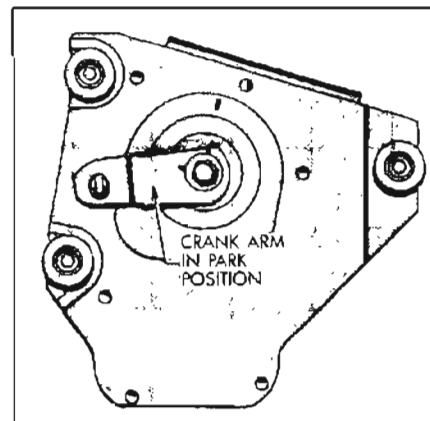
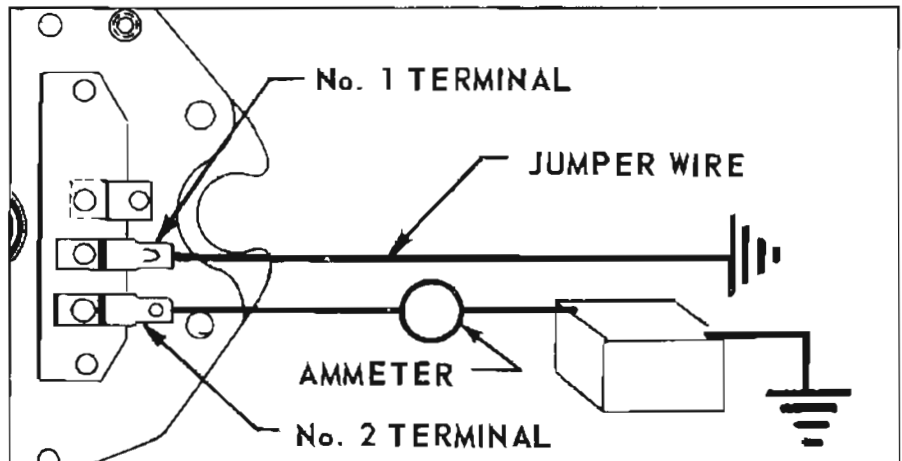

Figure 10-100—Park Position of Crank Arm
Figure 10-102—Connections to Operate Wiper Out of Car
When the car owner shuts the wiper "off" at the dash switch, the motor circuit to ground is opened at the dash. However, the parking switch contacts, which are normally closed, maintain the motor circuit to ground at the wiper. This allows the wiper to keep operating until the blades or wiper crank arm reach the park position (Blades approx. 2" above windshield molding). (Figure 10-100 shows the crank arm in park position.) At the same time the blades reach the park position, a cam on the output gear opens the park switch contacts. This opens the motor circuit to ground, stopping the motor. Thus, the park switch actually controls wiper operation only during that short period of time, after the owner turns the wiper "off" at the dash switch but before the wiper has completely stopped.
Figure 10-102 shows the proper method of connecting jumper leads to the wiper so that it can be operated independently of the dash switch or car wiring for test purposes. (NOTE: Specification table at end of this section lists current draw data.)
Step (a) but wiper still fails to operate, disconnect wiring harness from wiper and check for 12 volts at harness terminal that connects to wiper terminal No. 2, Figure 10-102. No voltage indicates defective car wiring. **CAUTION: DO NOT connect hot line to No. 1 terminal.**
(c) Connect 12 volt supply to No. 2 wiper terminal and connect a jumper wire from terminal No. 1 to ground (Figure 10-102). If wiper operates, the dash switch or wiring between dash switch and wiper is defective.
wiper terminal No. 2 (Figure 10-102). DO NOT connect any jumper wire to terminal No. 1.
Connect a 12 volt supply and an ammeter to wiper as shown in Figure 10-102 and observe current draw and wiper operation.
Wiper crank arm fails to stop in park position when jumper wire is removed from wiper terminal No. 1 (Figure 10-102).
(b) Check for grounded condition in the internal motor lead that connects to terminal No. 1, Figure 10-102.
Wiper crank arm stops rotating immediately when jumper wire is disconnected from wiper terminal No. 1 (Figure 10-102). NOTE: Crank arm should continue to rotate until park position is reached (Figure 10-100).
2. Reassembly of Crank Arm - Operate wiper to park position (Figure 10-102) and install crank arm on output shaft in the position shown in Figure 10-100. Clamp crank in vise before securing the retaining nut.